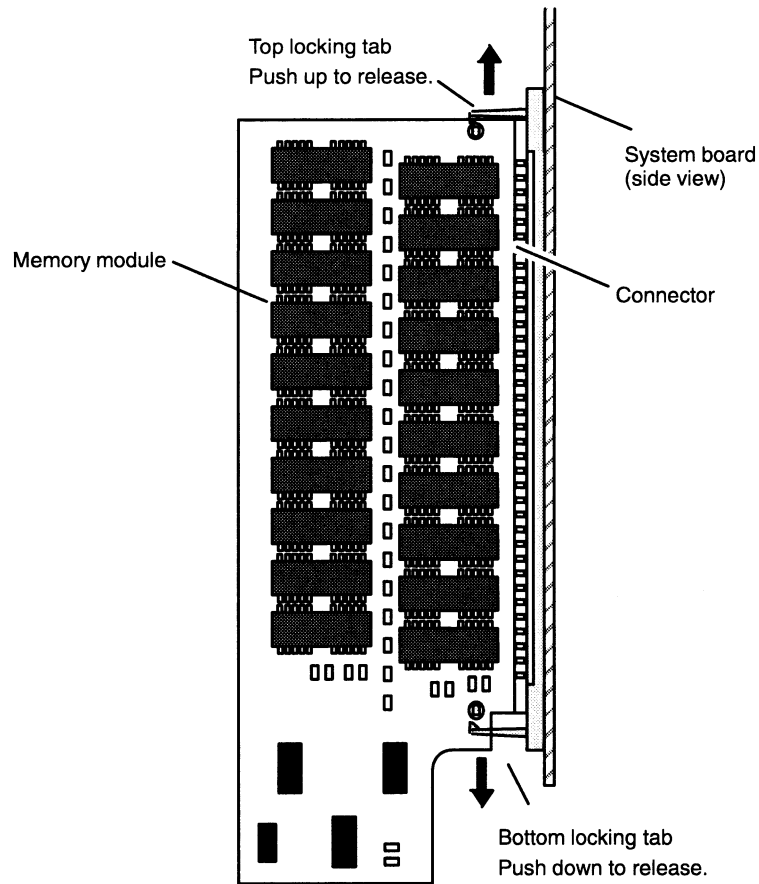

Figure 8-4 Releasing the Memory Module Locking Tabs
- Using your finger, gently push the locking tab on the *bottom* of the connector *down* as shown in Figure 8-4. Then gently push the locking tab on the *top* of the connector *up* as shown in Figure 8-4. The memory module will spring up slightly, indicating that the module is released.